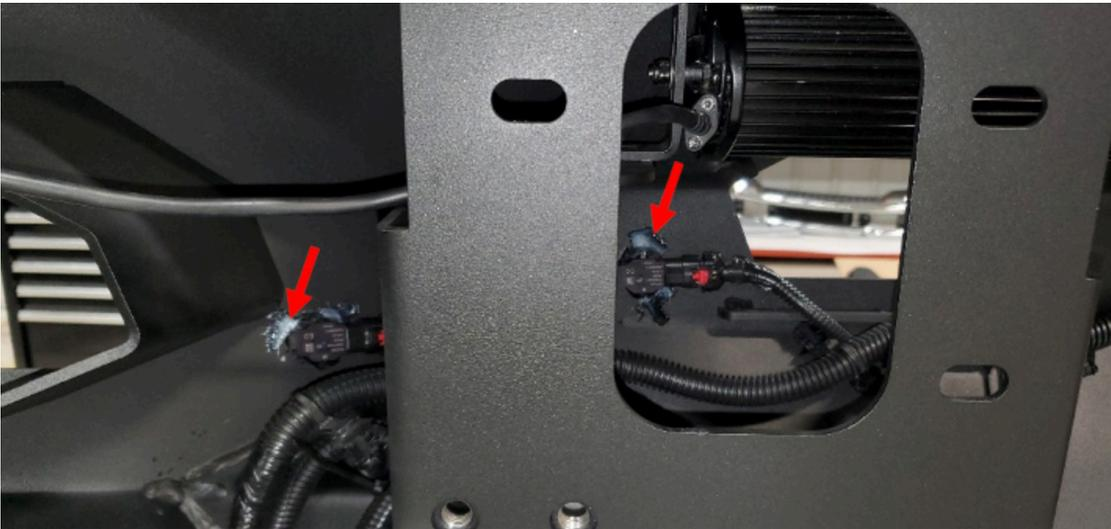

Figure 23
30. Remove all four (4) sensor housings from bumper, making note of their location in the bumper (passenger side inner, passenger side outer, etc.) as well as the orientation of each. It may be helpful to put an arrow facing up on each housing before removing.
31. Insert housings into new bumper (23027) in proper location. Using tape temporarily secure housing into bumper. Mix 2-part epoxy and apply to sensor housing to secure into bumper. Figure 23